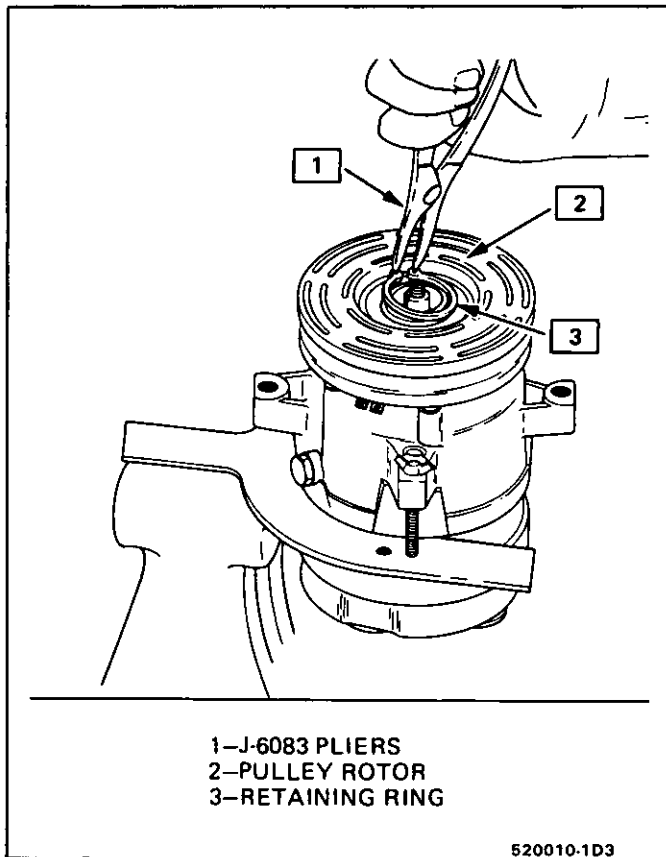

Fig. 10 Removing Pulley Rotor & Bearing Assembly Retaining Ring
- Remove rotor and bearing assembly retaining ring, using snap ring pliers J-6083 (Fig. 10).
9. Install rotor and bearing assembly retainer ring, using snap ring pliers J-6083 (Fig. 10).